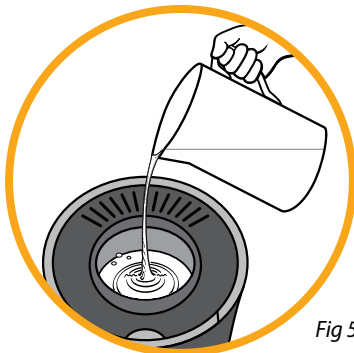

Fig 5
7. Carefully pour hot water into the reservoir until it is  $\frac{3}{4}$  full. Let the water sit for 5 minutes (Fig 5). Always use caution when handling hot water.